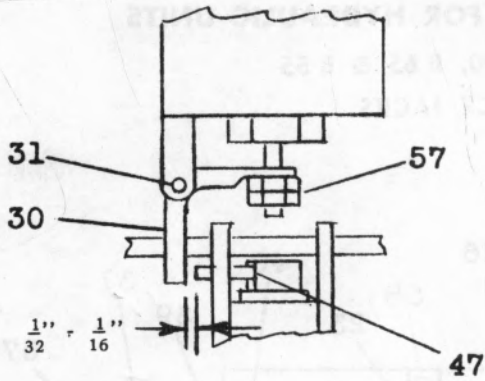

FIG. 2.
1. Removing Unit from Chassis: Take off cover plate, unscrew locking nuts (57) on release spindle. Pull pin (31) and remove cam lever (30). Withdraw trunnion stud (27). Unhook release springs at handle end of jack. Remove cotter and washer at ram crosshead (7). Complete hydraulic unit can now be withdrawn and all valves are readily accessible.
2. Adjusting Overload Release: Take off cover plate, remove seal screw (58), insert $\frac{1}{8}$ " dia. steel rod to prevent release adjusting nut (23) from turning. Use a wrench on the release lock nuts (57) to turn the release spindle (26). Turn clockwise to increase pressure. This adjustment should not be used to increase the capacity of the jack beyond its rated capacity.
3. Oil Leaks at Release Spindle Housing (39): Unscrew locking nuts (57) on release spindle. Pull pin (31) and remove cam lever (30). Unscrew release spindle housing (39) and remove assembly. Install new "O" ring packing (40). Assemble carefully over threads on release spindle to avoid damage to "O" ring. Reassemble and adjust locking nuts (57) to allow $\frac{1}{32}$ to $\frac{1}{16}$ clearance between cam lever (30) and handle cam lever pin (47). See Fig. 2. Handle of jack must be fully turned in clockwise direction and in lowest position when making this adjustment.